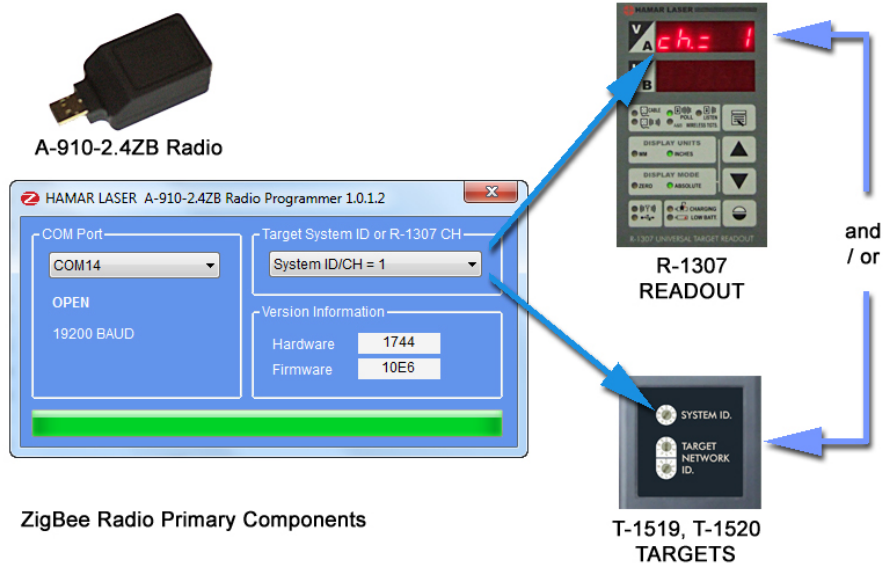

Figure 28 – System ID Setup
3. The Target System ID or R-1307 CH (channel) is the number associated with the A-1519/1520 targets or R-1307 Readout. If using both the A-1519/1520 targets and an R-1307 Readout, both need to be set to the same system ID and channel (see Figure 28).